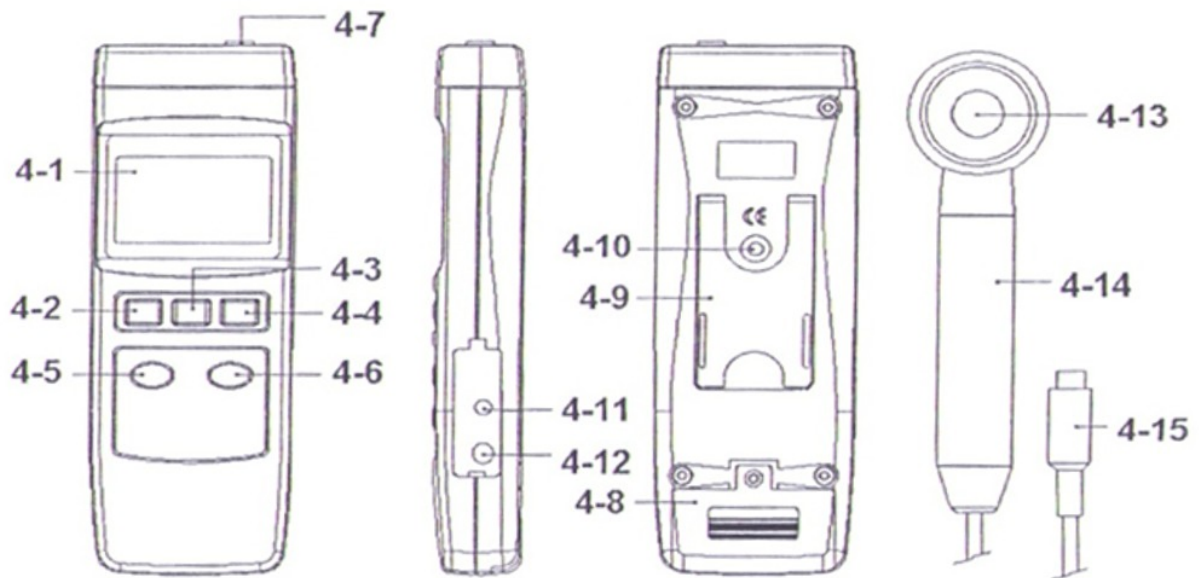

Fig. 1
- 1) Connect the " Probe Plug " (4-15, Fig. 1) to the " Input Socket " (4-7, Fig. 1)
- 2) Power on by pushing the " Power Button " (4-2, Fig. 1).
** After power ON if push the " Power Button (4-2, Fig. 1) once a while again will power OFF the meter.*
- a. Select the " 2 mW/cm² " range by pushing the " 2 mW/cm² Button " (4-5, Fig. 1).
- b. Select the " 20 mW/cm² " range by pushing the " 20 mW/cm² Button " (4-6, Fig. 1).
- 4) Use the hand to hold the " UV Probe Handle " (4-14, Fig. 1) and face the " UV Sensor " (4-13, Fig. 1) to the measuring UV light opposite. then the Display (4-1, Fig. 1) will show light values exactly.
During the measurement, pressing the " Hold Button " (4-3, Fig. 1) will freeze the display value, at the same time the LCD will show the " HOLD " indicator.
- * The data record function records the maximum and minimum readings. Press the " REC Button " (4-4, Fig. 1) once to start the Data Record function and there will be a " REC. " symbol on the display.
- a) Press the " REC Button " (4-4, Fig. 1) once, the " REC. MAX. " symbol along with the maximum value will appear on the display.
If intend to delete the maximum value, just press the " Hold Button " (4-3, Fig. 1) once, then the display will show the " REC. " symbol only & execute the memory function continuously.
- b) Press the " REC Button " (4-4, Fig. 1) again, the " REC. MIN. " symbol along with the minimum value will appear on the display.
If intend to delete the minimum value, just press the " Hold Button " (4-3, Fig. 1) once, then the display will show the " REC. " symbol only & execute the memory function continuously.
Cover (blank) the " UV Sensor " (4-13, Fig, 1), pushing " Zero Button /2 mW/cm² Button " (4-5, Fig. 1) continuously at least 3 seconds, LCD will reach to zero values.
Zero Button (4-12, Fig. 1) can be operated under the display value ≤ 0.1 mW/cm² only.
The instrument has RS232 PC serial interface via a 3.5 mm terminal (4-11, Fig. 1).
- 2) Open the " Battery Cover " (4-8, Fig. 1) away from the instrument and remove the battery.